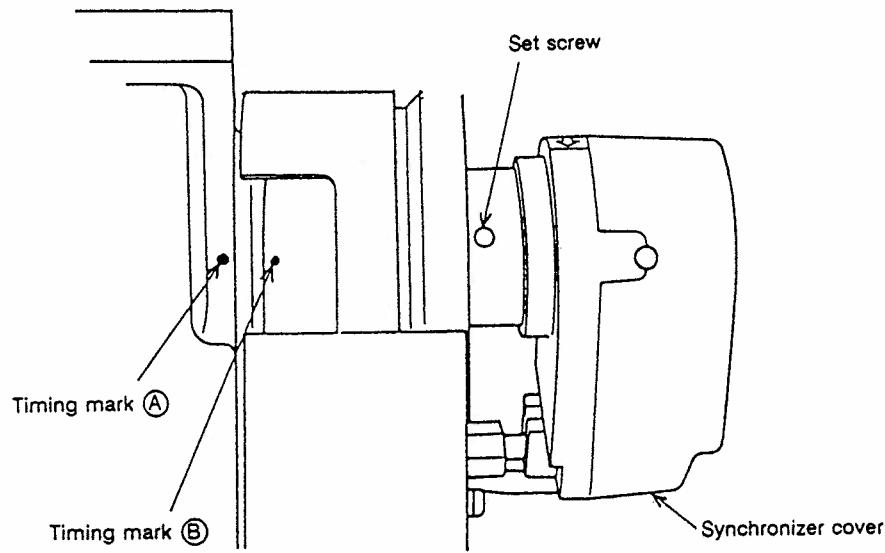

Fig. 10.22
- (1) Upon completion of the stitching, the sewing machine should stop with timing mark A on the arm aligned with timing mark B on the pulley. (See Fig. 10.22)
- (2) If the deviation between these two marks is 3 mm or more, loosen the synchronizer coupling set screw and turn the coupling to adjust the stop position. Turning the coupling clockwise delays the stop position; conversely, turning it counterclockwise advances the stop position.
- (3) If the needle bar stop comes too early, the needle thread may disengage from the needle eye when stitching is commenced. Conversely, if it is delayed, the needle will stop at a lower position which may mean that the wiper will be caught by the needle or that the movable knife will not move since the cam follower roller of the thread trimmer cannot enter the cam groove.